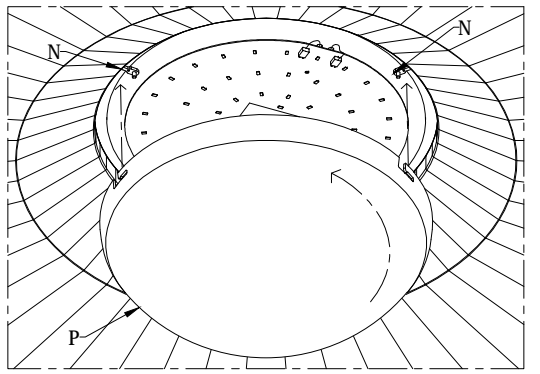

Fig. 5
- Posizionare la calotta inferiore (P) sulle tre staffe (N) tramite le aperture presenti (Fig. 5 - 6 - 7).
- Place the bottom cover (P) on the three brackets (N) through the openings (Fig. 5 - 6 - 7).